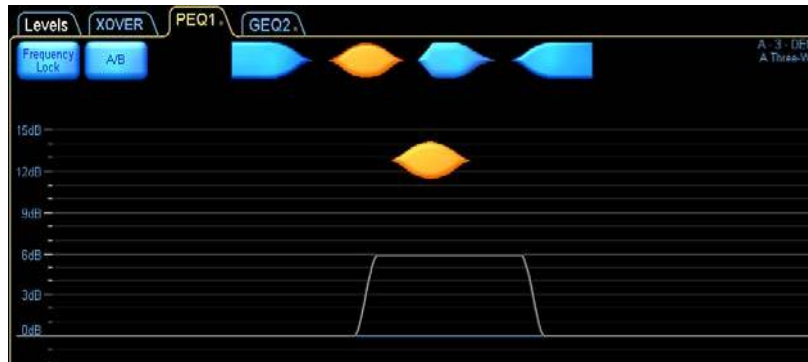

Figure 3-22
1. Tap the band-pass filter at top of the EQ display (orange in Figure 3-22).